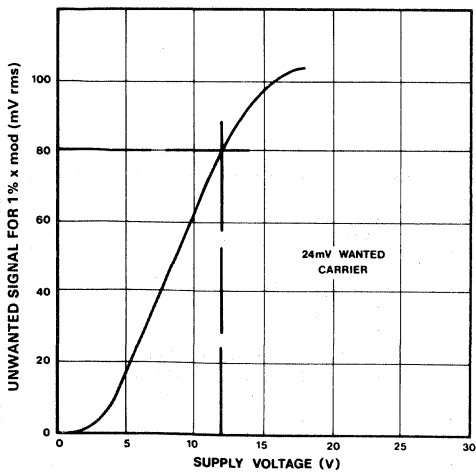

Fig. 5 Cross modulation performance v supply voltage (see note 1)
**SL1430 TYPICAL CHARACTERISTICS AT 12V, +25°C, WITH SW173 AS LOAD (7.5pF) (FIGS.5 TO 10)**